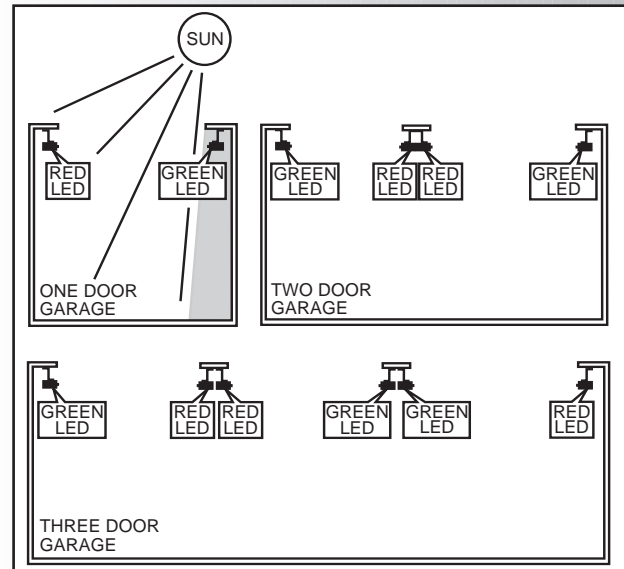

Fig. 3-4
- Determine which side of garage receives most direct sunlight **Fig. 3-4**, and place Red LED here whenever possible **Fig. 3-4.**
- Place source and sensor modules on adjacent doors facing in opposite directions **Fig. 3-4.**